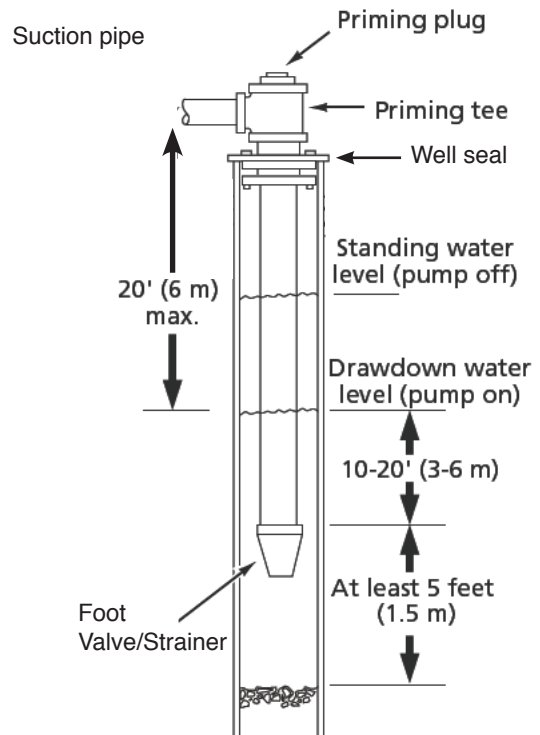

Figure 1 -Cased/Dug Well Installation
Cased Well/Dug Well Installation- Figure 1
5. When using foot valve, a priming tee and plug are recommended. (Fig. 1).
For long horizontal pipe runs, install a priming tee between check valve and well head (Fig. 1).